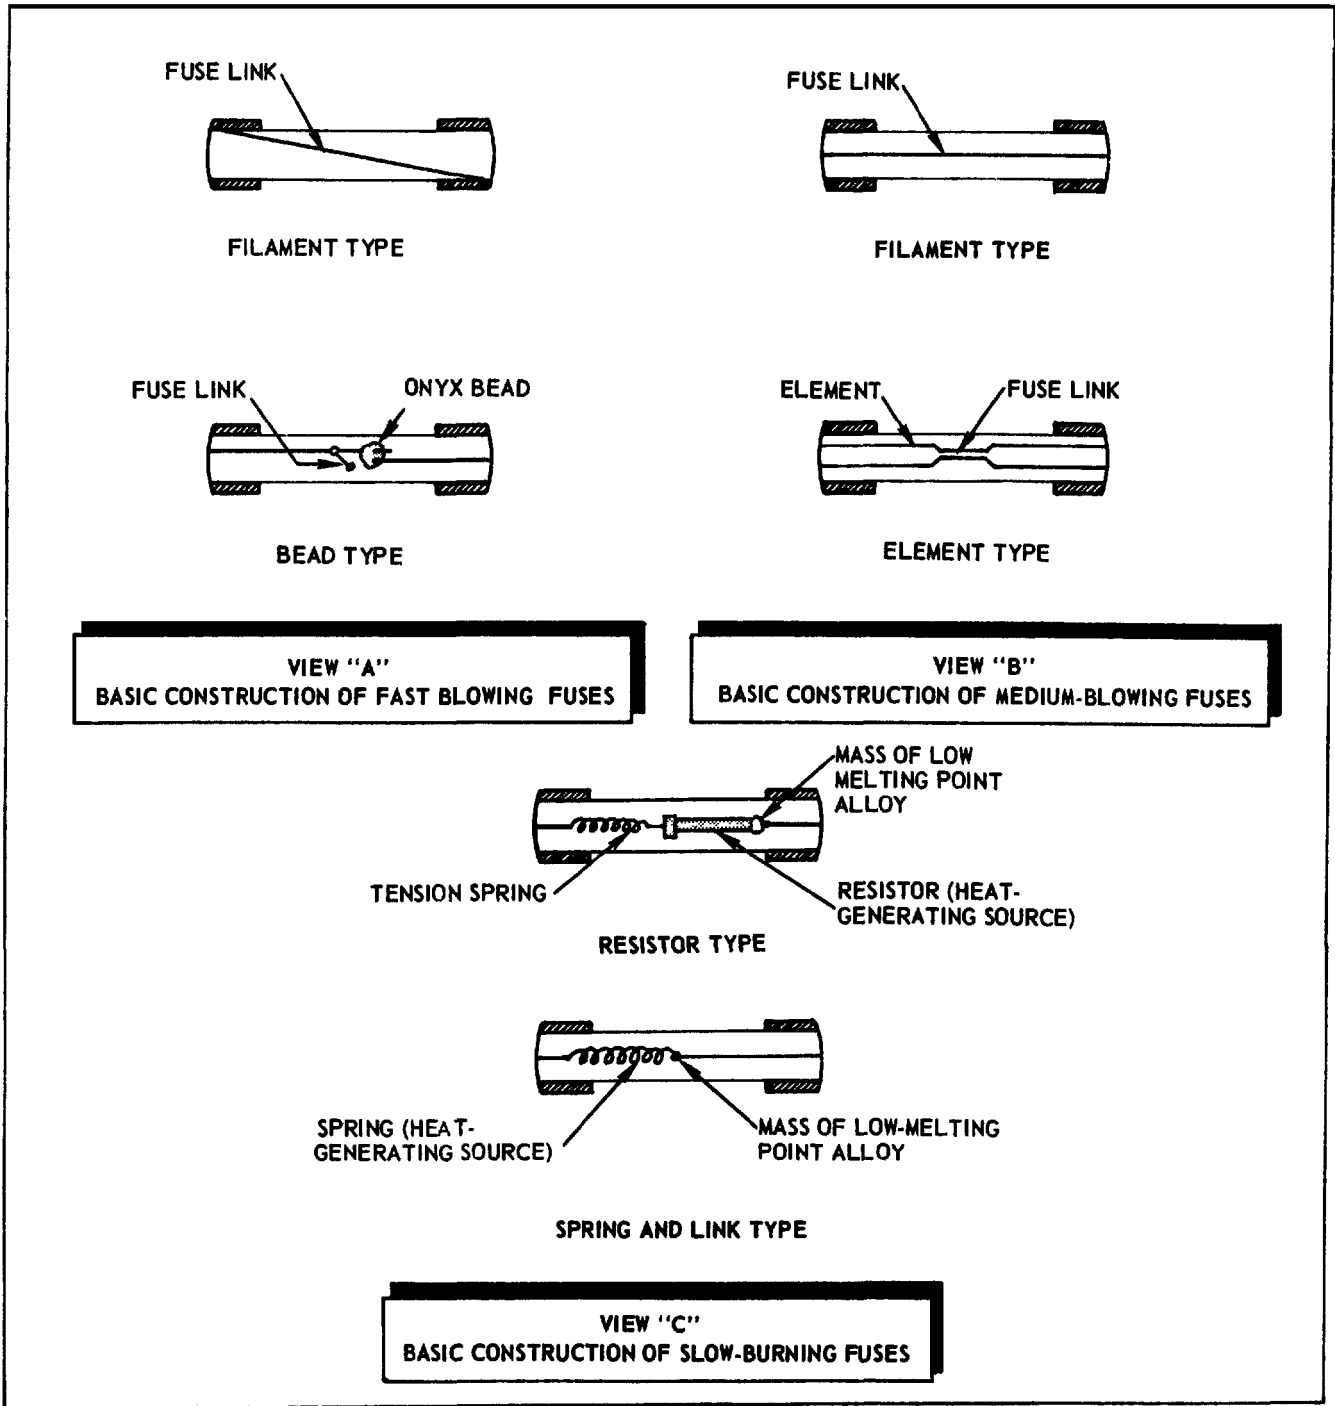

Figure 4. Basic Construction, Views A, B, and C
d. Place keywasher (4) on circuit breaker and insert through rear of panel (3). Secure with lockwasher (2) and nut (1). The circuit breaker must be held to prevent rotation while tightening the nuts to prevent strain on the mounting key.
66. **NORMAL.** This type of fuse is often referred to as a "normal opening" fuse and may or may not be current limiting. Normal fuses contain single elements and possess a time-current characteristic curve that is essentially a smooth curve with no discontinuities. Figure 4 shows a typical aircraft fuse.